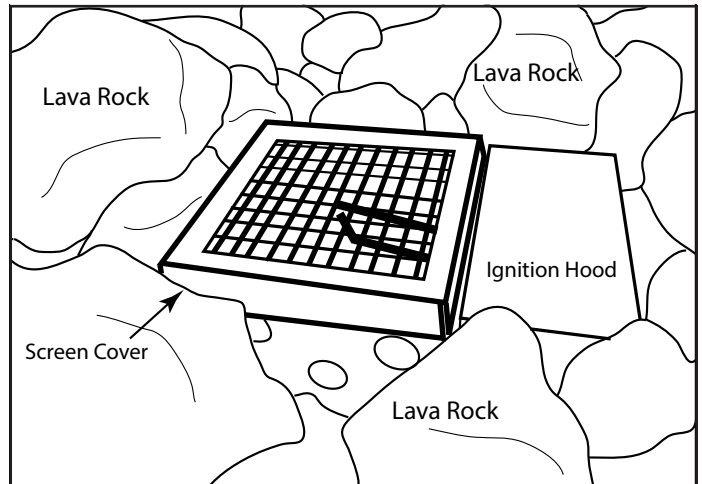

Fig. 12. Mesh screen cover installed on ignition hood.
Step 13: Install the screen mesh cover overtop of the ignition hood. See Fig. 12. Ensure media does not block cover.